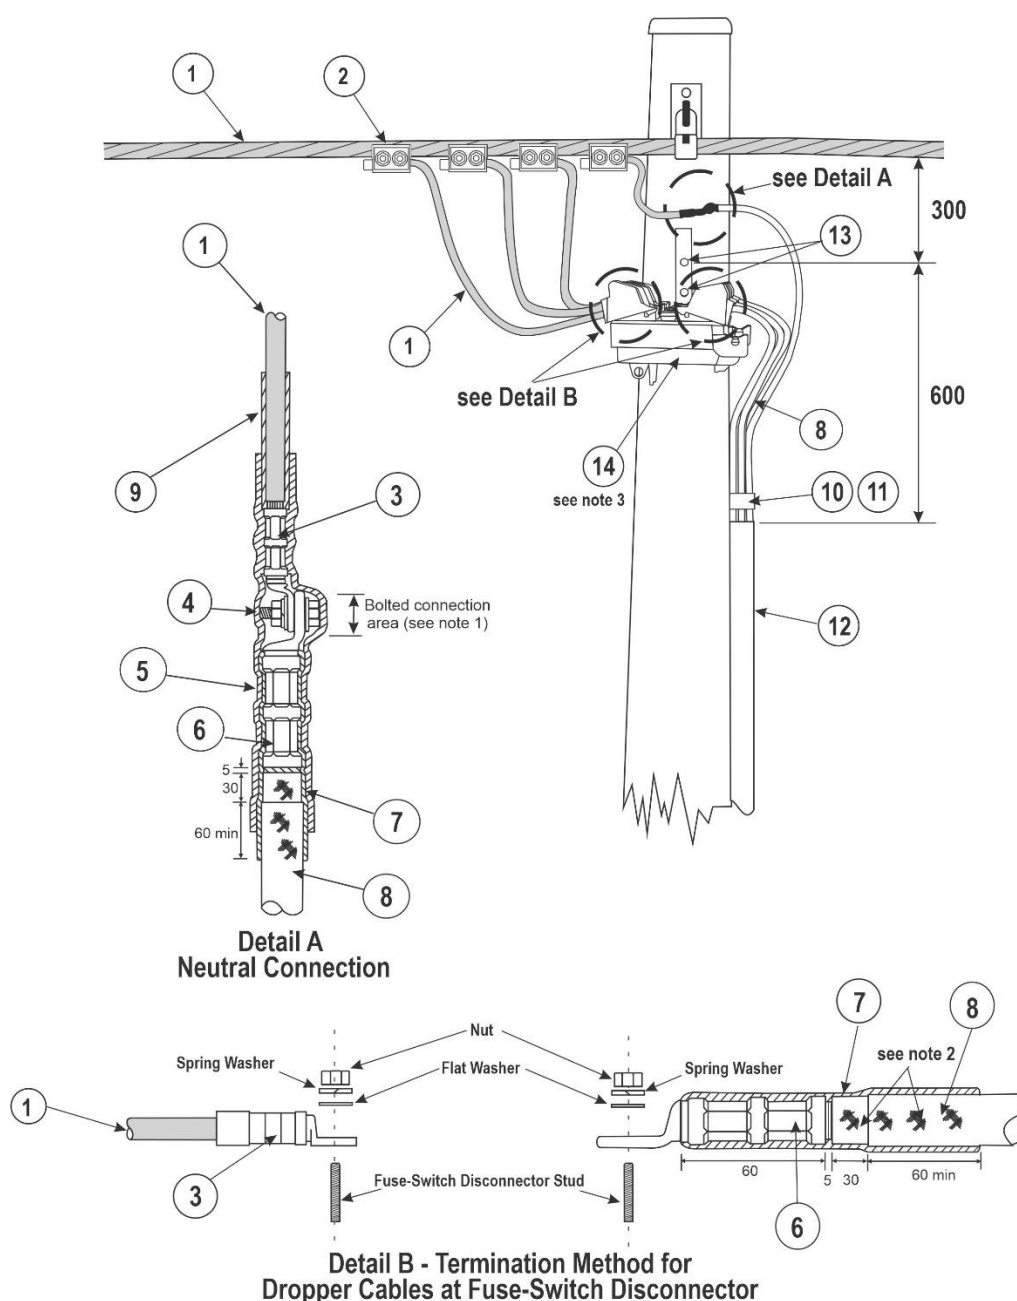

Figure 16.1 – General Arrangement (150mm² LVABC shown)
1. Cover the bolted connection area with fibreglass tape to keep it free from any adhesives flowing from item 5.
2. Abrade the cable sheath and the cable insulation to the dimensions shown on Figure 16.1.